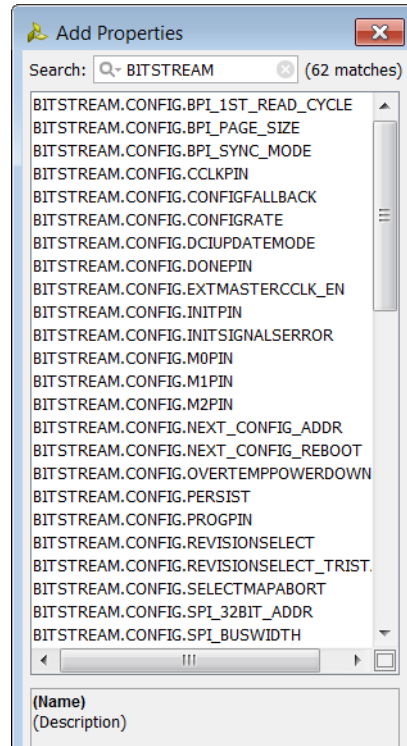

Figure 2-2: Add Bitstream Properties
3. In the **Add Properties** dialog box, type **BITSTREAM** into the **Search** text field. Find and select the desired **BITSTREAM** properties, then click **OK**. (see Figure 2-2).